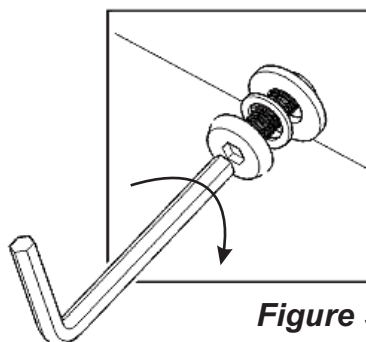
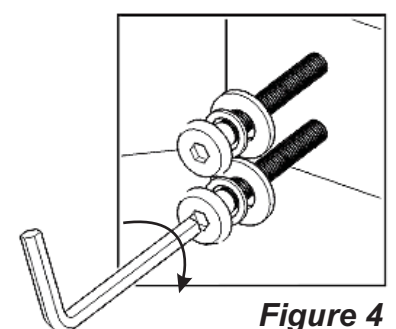

Figure 3
Figure 4
Attach Back Frame (G) to unit with Wood Screws, Flat Washers, Spring Washers, Head Cap Bolts (long) And Head Cap Bolt (short). (see Figure 3) and (see Figure 4)